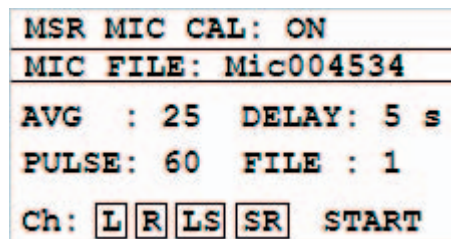

Fig. 5. Measurement screen.
3. Measurements. To perform room response measurements, select the MSR menu option to display the measurement screen (Fig. 5).
The 2.2 XP is factory configured to measurement parameters as displayed in Fig. 5. The MSR MIC CAL option should be turned ON and the MIC FILE field should display the microphone serial number as printed on your microphone